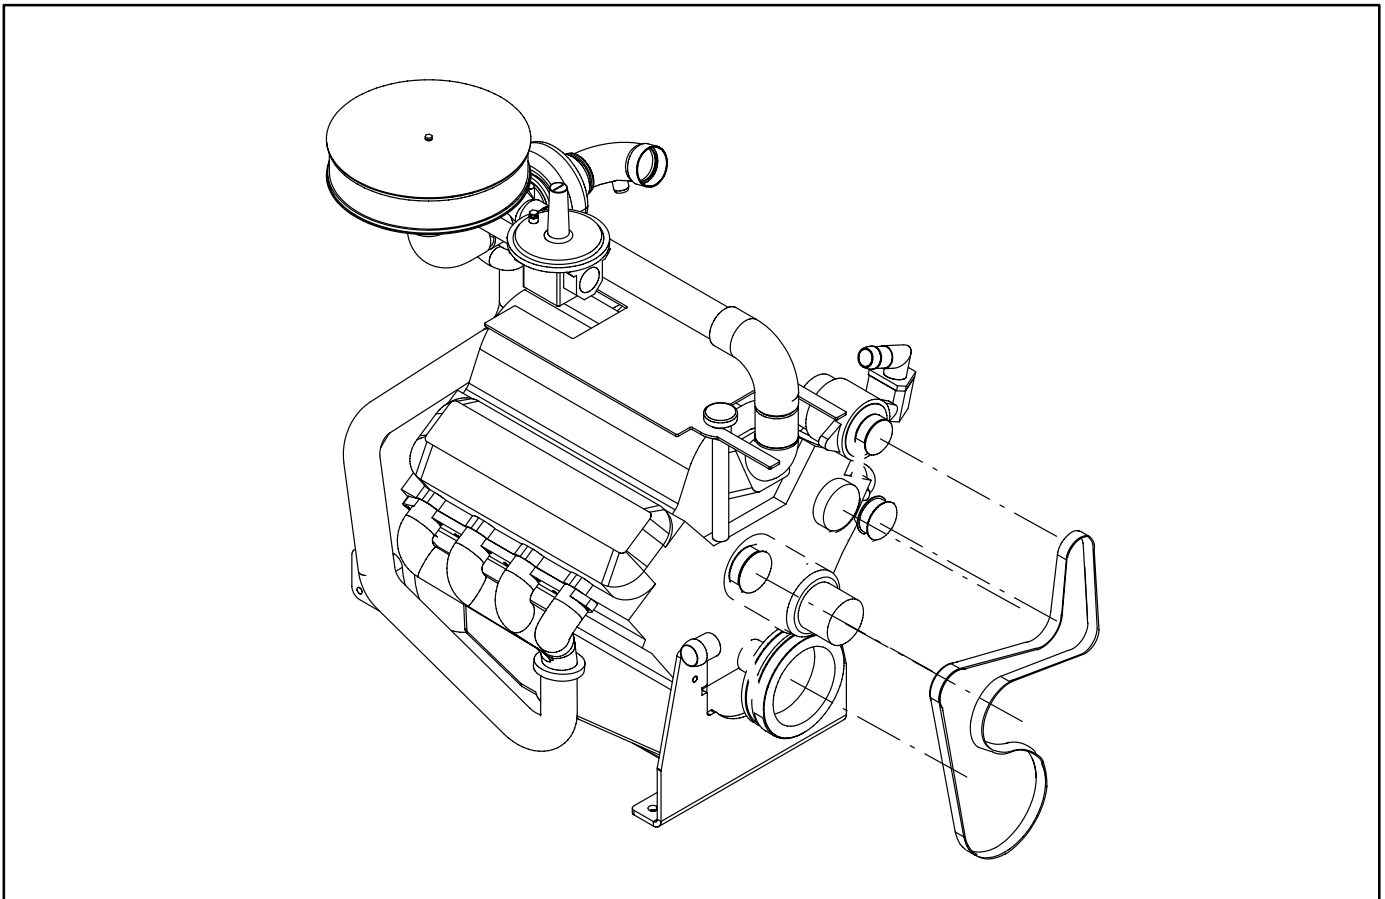

FIGURE 7-6. SERPENTINE BELT REPLACEMENT
3. Using a socket wrench, rotate the tensioner pulley arm away from the belt and remove the belt (Figure 7-6).